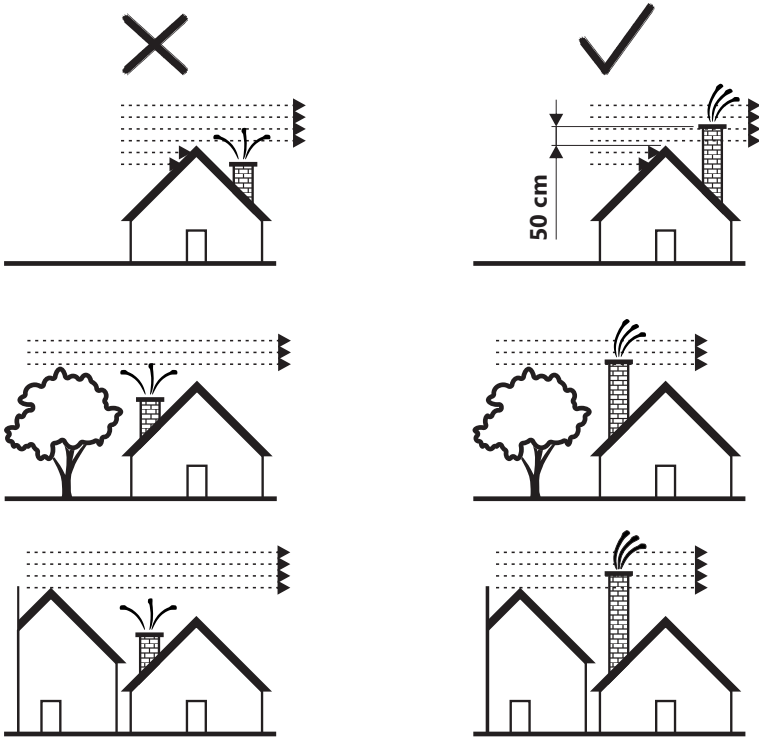

Figure 2a
- the flue must be at least 0.5 m higher than the roof and to exceed the height of facilities/obstacles that are in its vicinity (neighbouring house, a tree...) (Figure 2a).